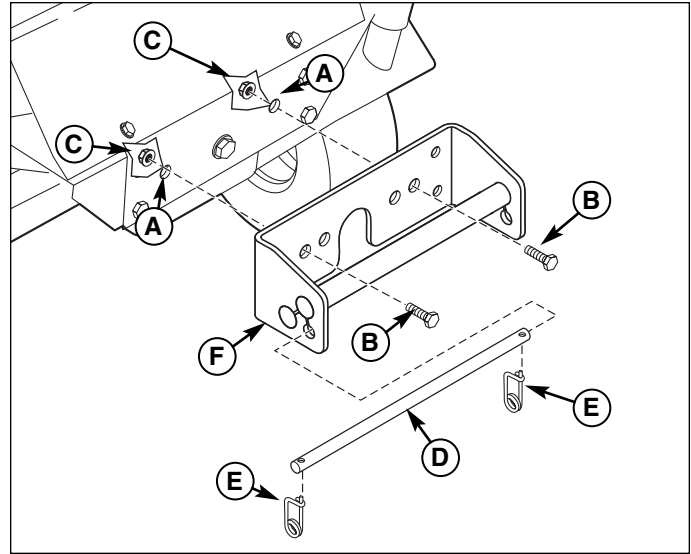

Figure 12. Front Weight Carrier Installation
1. Install carrier (F, Figure 12) as shown securing with capscrews (B), and locknuts (C).
2. Secure required weights using rod (D) and safety clip (E).